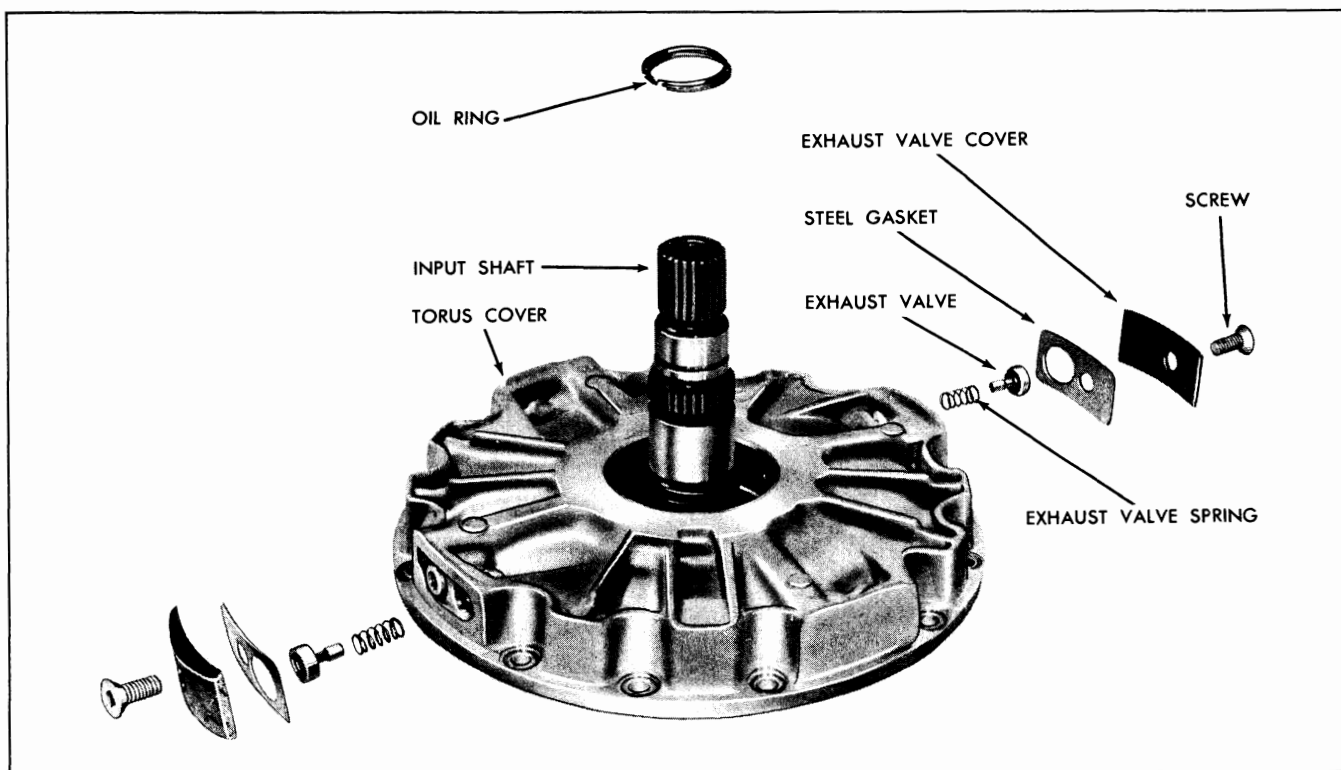

Fig. 7C-78 Torus Cover—Exploded
2. Align the top structural web of the pump exactly with the top web in the case cover (Fig. 7C-77). Start one pump attaching bolt from under side of cover to assure proper alignment before pushing pump to bottom of its recess in the cover.